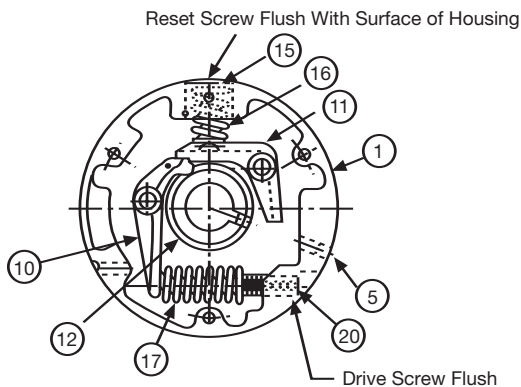

Figure 15 - Clutch Internal Components
3. This step is for manual reset only. Go to next step for automatic reset. Install the drive pawl (10) into the appropriate hole in the housing (1), and the reset pawl (11) into its appropriate hole in the housing. Check the fit of the reset pawl into the notch of the drive pawl with the clutch disengaged. The reset pawl should fit approximately one-third of the way into the notch. Grinding the nose of the reset pawl may be necessary to obtain the proper fit.
4. The drive pawl (10) and the drive spring (17) will have to be installed simultaneously. If a drastic change in torque is desired, use this step to change the drive spring. Place one end of the drive spring over the drive spring thrust washer. Insert the knob of the drive pawl into the other end of the drive spring. Insert the trunnion of the drive pawl into the hardened bushing in the housing, while the nose of the drive pawl fits into the notch of the rotor (12). Install the reset pawl (11) into its appropriate hole in the housing. (See Figure 15)
6. Insert the reset spring disc (16) inside the reset spring screw (15). Apply grease to the surface of the disc.
8. Apply grease to the threads of the reset spring screw (15) and insert the assembly of the reset spring screw, reset spring disc (16), reset spring (18), and ball thrust (19) through the hole stamped 9 on the housing. Tighten the reset spring screw until it is flush with the surface of the housing. (See Figure 15)
10. Install a return pin spring (34) over each return pin (31). Locate the return pin holes in the cover by placing the cover over the housing assembly.
12. Install a snap ring (33) into the groove on the end of each return pin (31).
14. Install the cover screws (23) and tighten to the suggested torques in Table 12.
15. Install the rotor snap ring (38) into the groove of the rotor. The unit is now ready for testing.
- Turn the drive spring screw (20) clockwise until it is flush with the surface of the housing. (See Figure 15)
- The clutch is supplied with a torque selector dial. The torque selector dial is the two or three mill marks located at the hole stamped 9 on the housing. If a drive spring (17), reset spring (18), and/or a reset spring screw (15) were replaced, chances are that the stamped torque values on the dial are no longer valid. It may be necessary to grind the old numbers off and to stamp new numbers.
- Tighten the reset spring screw (15) until it reaches the limit stop pin (4). this will be the maximum torque position. If the maximum torque is not desired, tighten the reset spring screw to one of the locations on the torque selector dial.
- Disengage the clutch with a torque wrench. fine tune the torque by turning the drive spring screw (20) until the desired release torque is obtained.
- Once the desired release torque is obtained, tighten the locking screws (24) located over the drive spring and reset spring screws to ensure that they will not move.
- Apply a thin coat of grease to the "O"-ring (39) and place it into groove on the outer edge of the cover. Be sure not to twist the "O"-ring.
- Insert the Woodruff key (37) into the keyslot of the rotor. The Woodruff key may require a gentle tap with a hammer.
- Press the cam plate (36) onto the rotor.